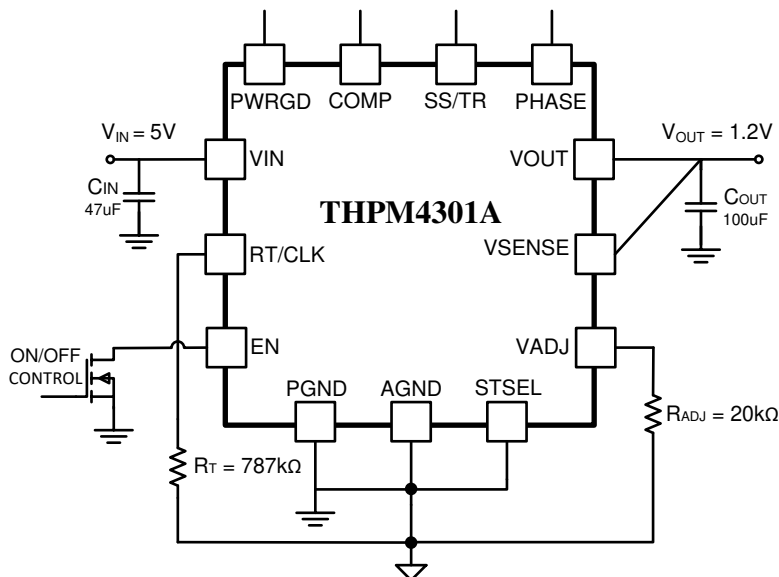

Fig. 22 Typical Schematic $V_{IN} = 2.95V$ to $6.0V$, $V_{OUT} = 1.2V$, $F_S = 500kHz$
Fig. 22 shows a typical schematic for a 1.2V output application using THPM4301A with switching frequency of 500 kHz. The adjustment resistor, R_{ADJ} , is selected as 20k Ω calculated based on Equation (1). R_T/CLK is connected to ground with a 787k Ω resistor to select the recommended switching frequency. $STSEL$ pin is connected to AGND to select the default startup time. The ON/OFF CONTROL signal is used to turn on and off the power module.